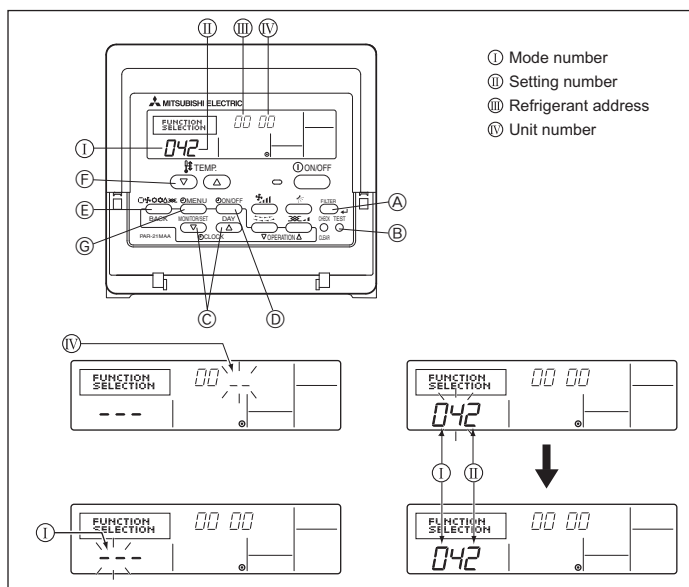

Fig. 6-2
6.2.1. Function setting on the unit (Fig. 6-2)